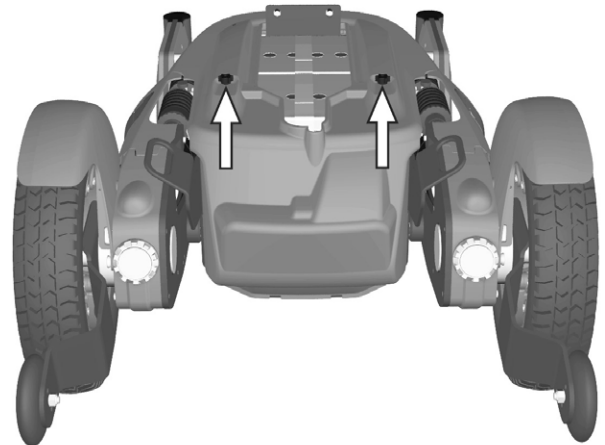

Figure 39. The chassis covers are fitted with two knobs.
7. Assemble the two knobs holding the chassis covers without tightening them. See fig. 39.